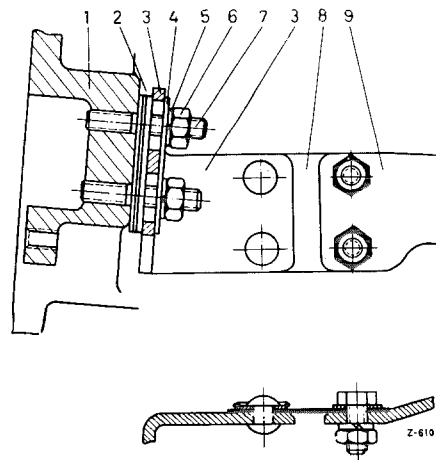

Fig. 26-1/7
The shaft is centered vertically by shifting the bracket (3) (Fig. 26-1/6).
**Note:** On recent models the brackets (3) have two standard bores instead of the two slots. The spacer (4) is no longer required (Fig. 26-1/6).
In order to facilitate vertical centering of the clutch pedal shaft, the two bores in the swivel support (9) have been enlarged in diameter from 6.4 to 7.0 mm. If a new bracket (3) is installed subsequently, the two bores in the swivel support must be bored to a diameter of 7 mm (Fig. 26-1/7).
- In the case of Models 180 a, 180 b, 190 D, and 190 Db adjust the length of the damping spring (8) to 15.5 mm by screwing in